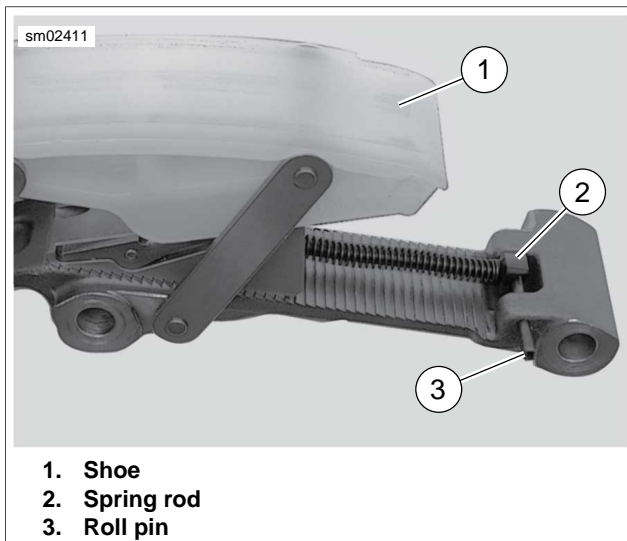

Figure 6-15. Spring Rod Location
11. See Figure 6-15. Locate end of spring rod (2) on roll pin (3).